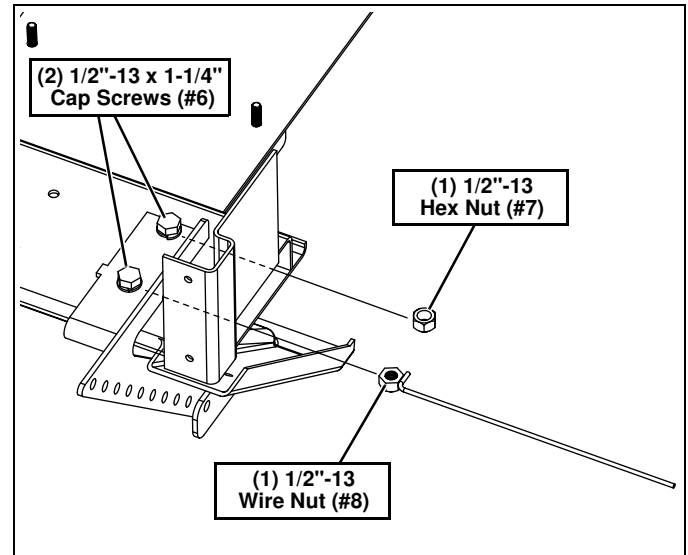

Figure 5
6. Secure the rear 1/2"-13 x 1-1/4" Cap Screw (#6) with (1) 1/2"-13 Hex Nut (#7). (See Figure 5.)
7. Secure the front 1/2"-13 x 1-1/4" Cap Screw (#6) with (1) 1/2"-13 Wire Nut (#8). (See Figure 5.)